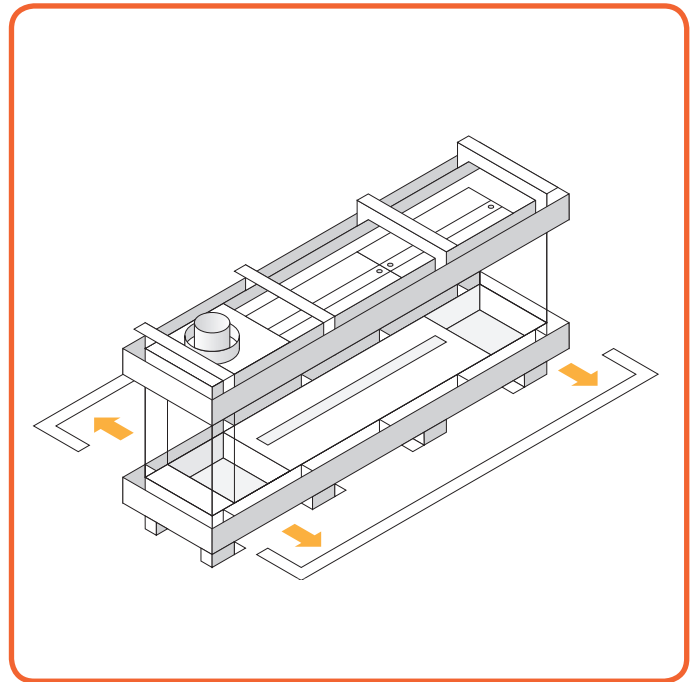

Figure 10.15 -
- The Summum 140 4s has two decorative frames around the glass. These are held by magnetic snappers, (Fig. 10.15) and can easily be pushed off the casing.